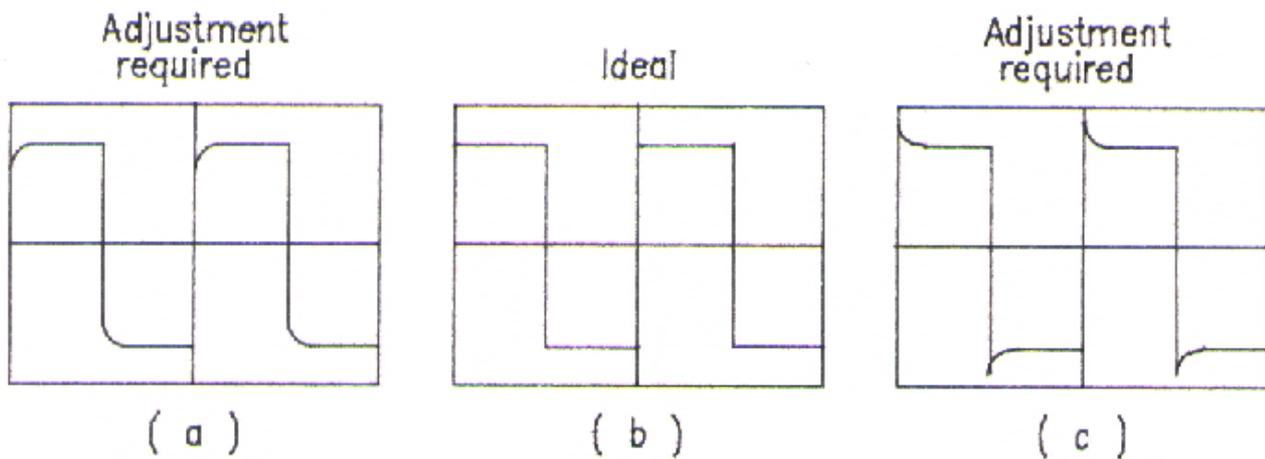

Fig. 11
- e. Adjust VC1 to make the displayed waveform become as Fig 11(b).
- g. Adjust VC2 to make the displayed waveform become as Fig. 11(b).